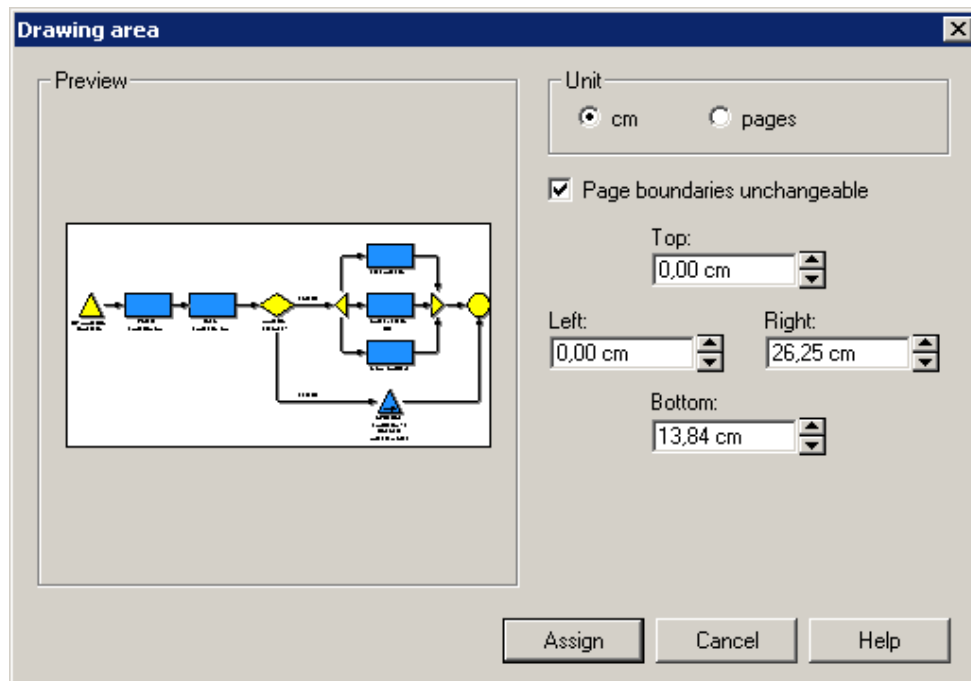

Figure 151: Drawing area
- **Drawing area** to open the window "Drawing area" (see fig. 151), in which you can increase or decrease the size of the drawing area (see chap. 2.2.9, p. 176).
Once this function is called, the window "Drawing area" (see fig. 151), in which you can increase or decrease the size of the drawing area, is displayed.